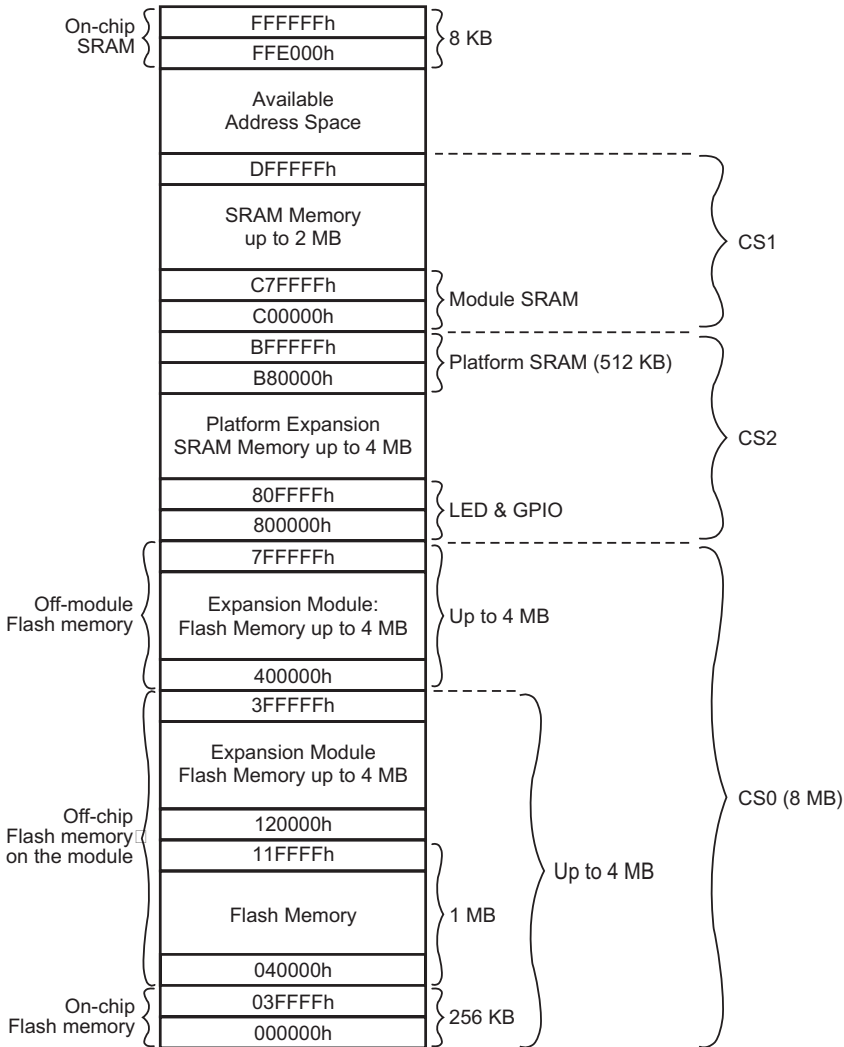

Figure 10. Memory Map of the eZ80[®] Development Platform and eZ80F91 Module
A memory map of the eZ80[®] Development Platform and the eZ80F91 Module is illustrated in Figure 10. Flash memory and SRAM on the eZ80F91 Module are addressed when $\overline{CS0}$ and $\overline{CS1}$ are active Low. SRAM on the eZ80[®] Development Platform is addressed when $\overline{CS2}$ is active Low.
Chip Selects and Wait States. As seen in the memory map in Figure 10, Flash memory is enabled by CS0, on-module SRAM is enabled by CS1, and the remainder of the resources are enabled by CS2. The number of wait states (N) for each Chip Select are indicated in Table 13.